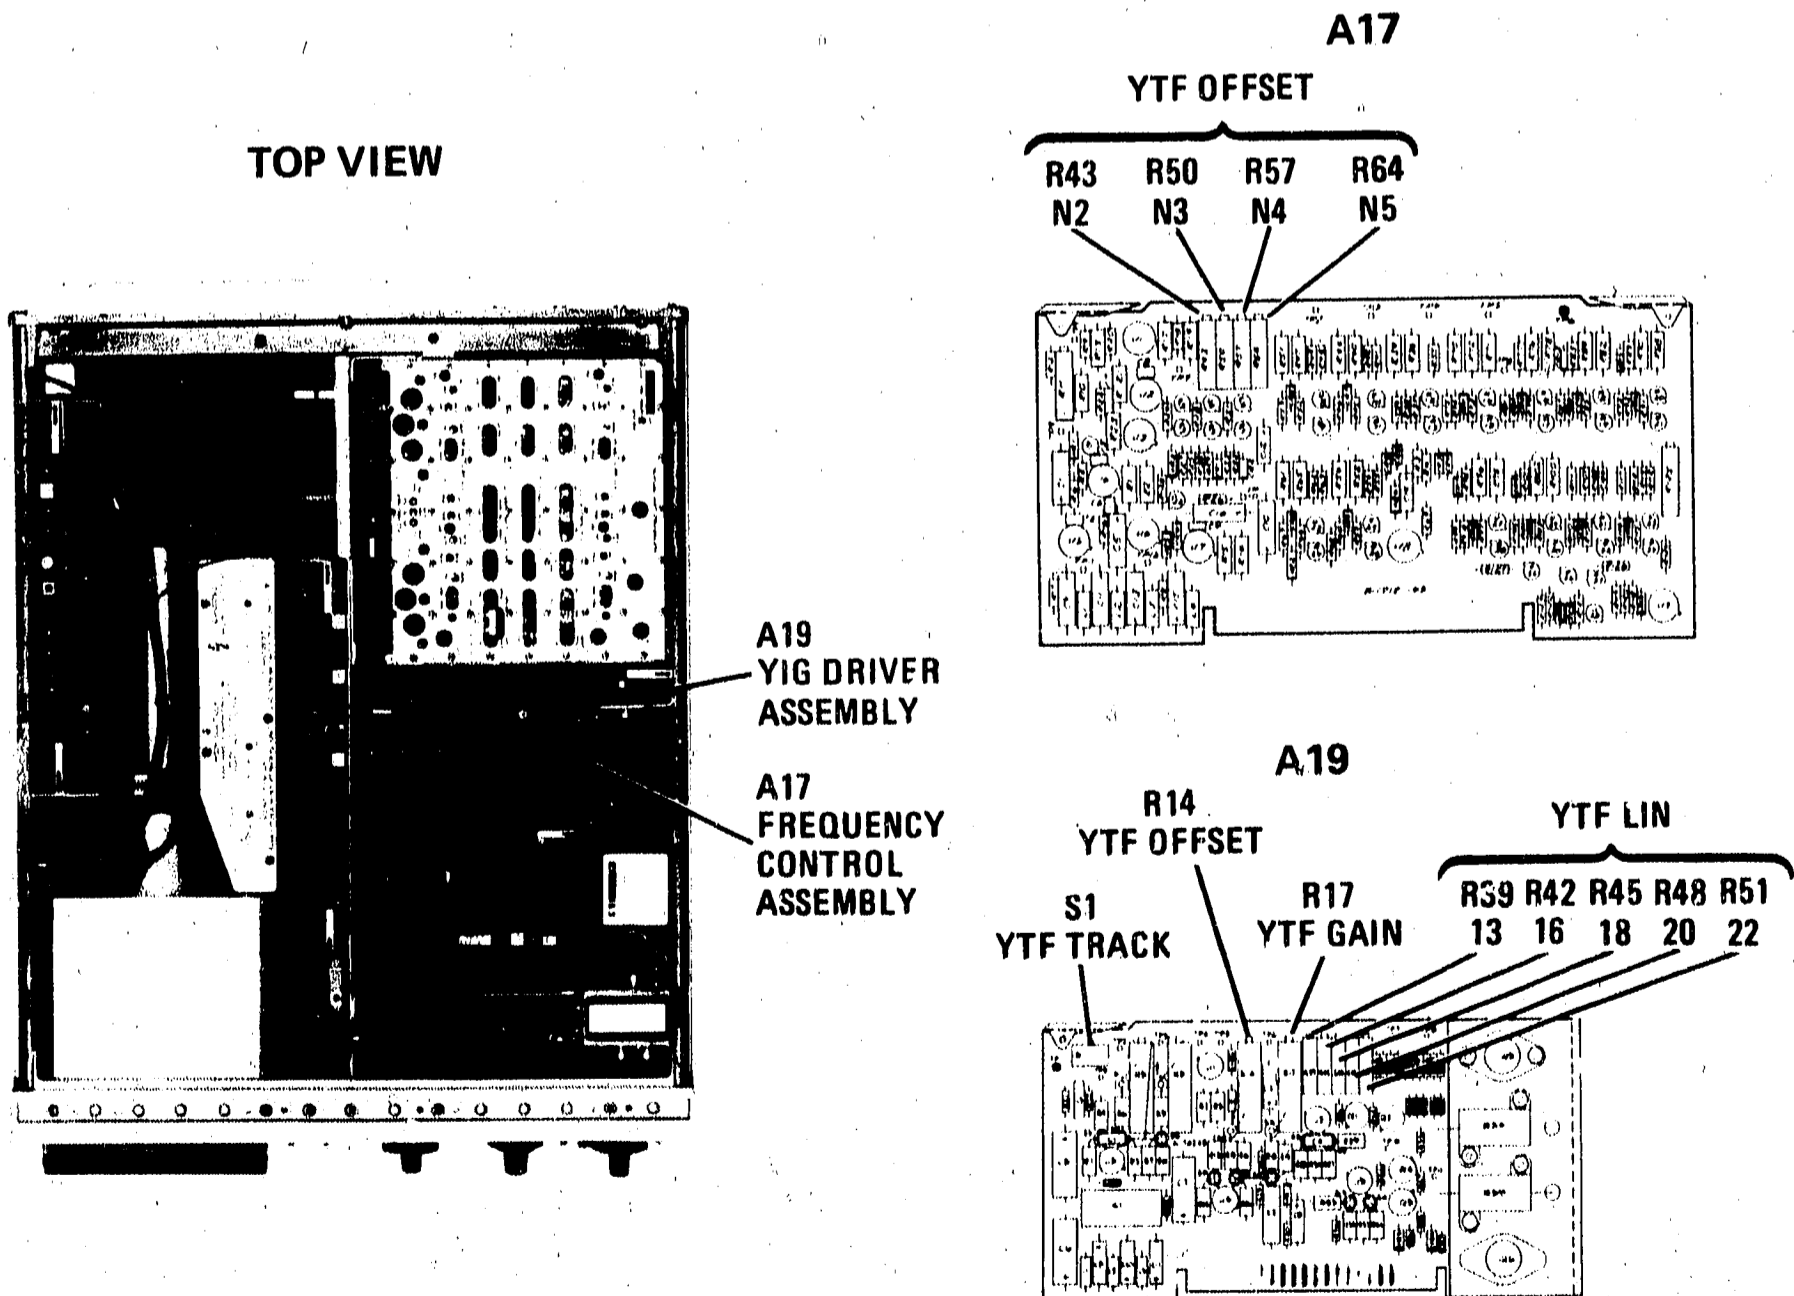

Figure 5-52. YTF Tracking Adjustment Locations
- 3. Set A19S1 YTF TRACK switch (Figure 5-52) to TEST position.